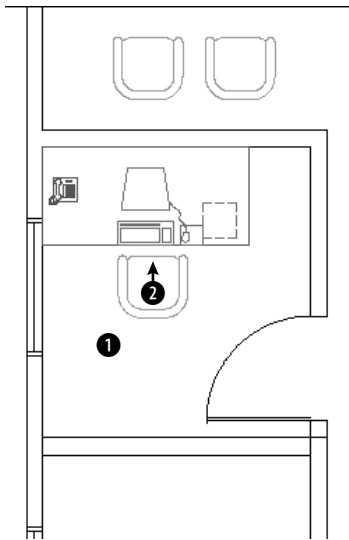

**Figure 18-32:** An office with a set of office furniture.
1. Open `ab18-h.dwg` from the CD-ROM. This is a plan of an office building zoomed in to one office. A file containing one set of office furniture has been inserted, as shown in Figure 18-32.
6. Leave the Text Options as they are. Make sure that the Specify On-Screen check box is checked and click OK. Pick point ❶ in Figure 18-32.